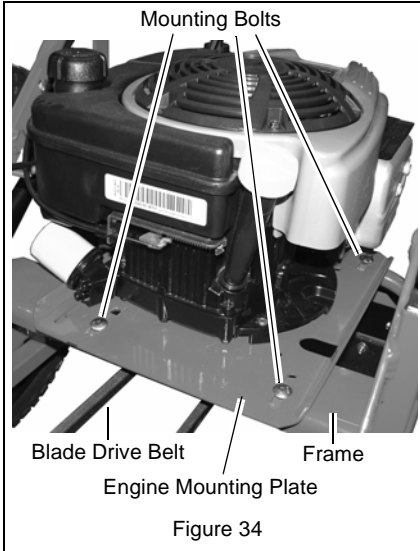

Figure 34
2. Loosen the four flanged lock nuts from the round head square neck bolts that secure the engine mounting plate to the mower frame. Do not remove hardware. See Figure 34.